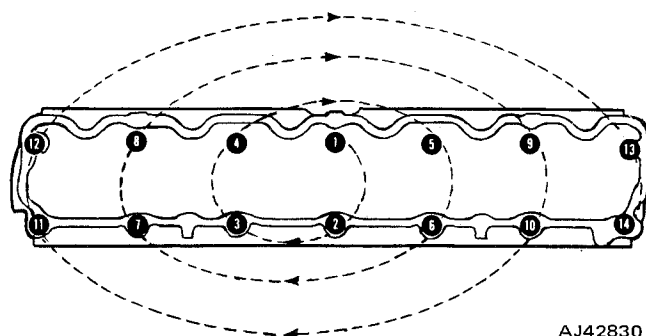

Fig. 1B-29 Cylinder Head Torque Sequence
- (4) Apply an even coat of Perfect Seal sealing compound, or equivalent, to both sides of replacement head gasket and position gasket on block with word TOP facing upward.
- (5) Install cylinder head. Tighten screws in sequence to 105 foot-pounds torque (fig. 1B-29).
- (6) Connect battery negative cable.
- (7) Install ignition coil and bracket assembly.
- (8) Install spark plugs and connect ignition wires.
- (9) Attach air conditioning compressor mounting bracket to cylinder head, if removed.
- (10) Install intake and exhaust manifold assembly. Refer to figure 1B-28 for the correct torque tightening sequence.
- (11) Install alternator bracket screw to head. Install alternator belt and adjust tension.
- (12) Install power steering bracket and pump. Adjust belt tension.
- (13) Install Air Guard pump bracket screws to head. Adjust belt tension.
- (14) Install each push rod to its original location.
- (15) Install rocker arms and bridged pivot assemblies to original locations. Loosely install capscrews to each bridged pivot. At each bridged pivot, tighten capscrews alternately one turn at a time to avoid damaging bridge. Tighten screws to 19 foot-pounds torque.
- (16) Install cylinder head cover. Use replacement gasket or silicone rubber material.
- (17) Connect hoses to thermostat housing and fill cooling system to specified level. Refer to Chapter 1C—Cooling.